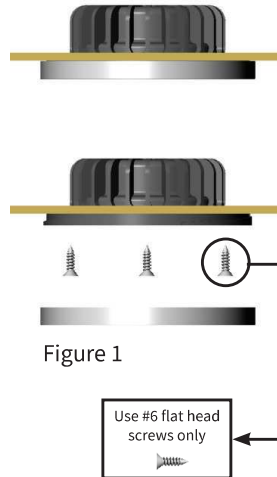

Figure 1
3. Once all electrical connections are made and secure, twist and remove the trim ring of your PowerLED and insert it into the cutout circle in the mounting surface. Fasten with #6 flat head screws (see Figure 1).